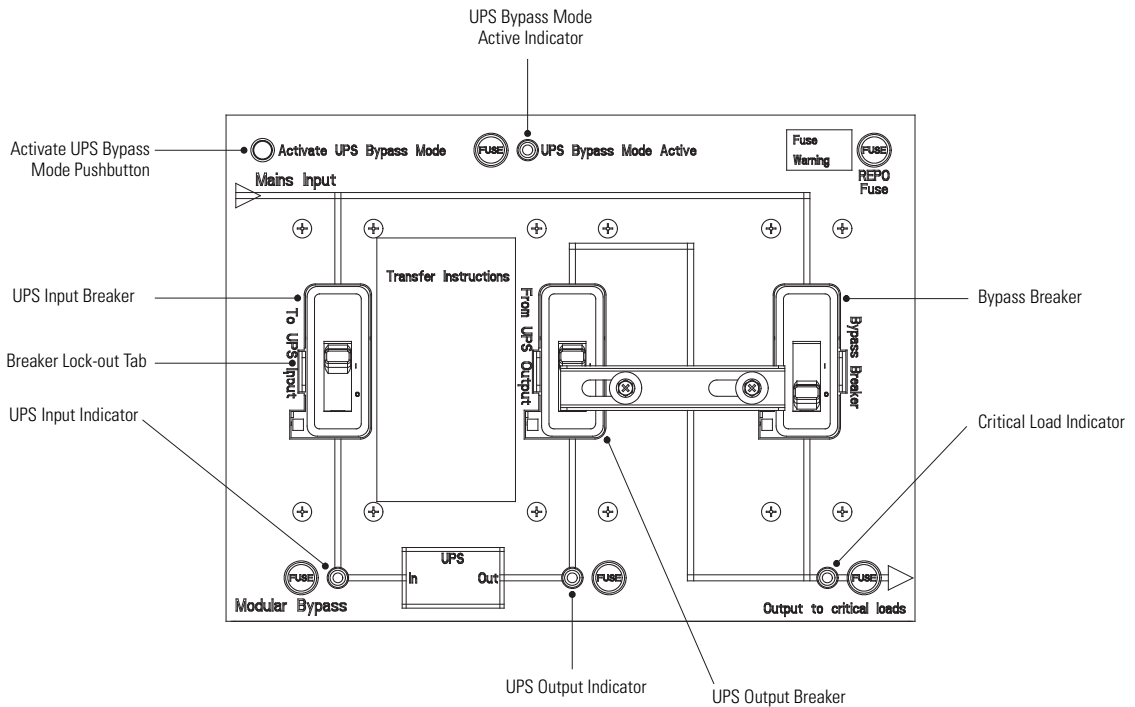
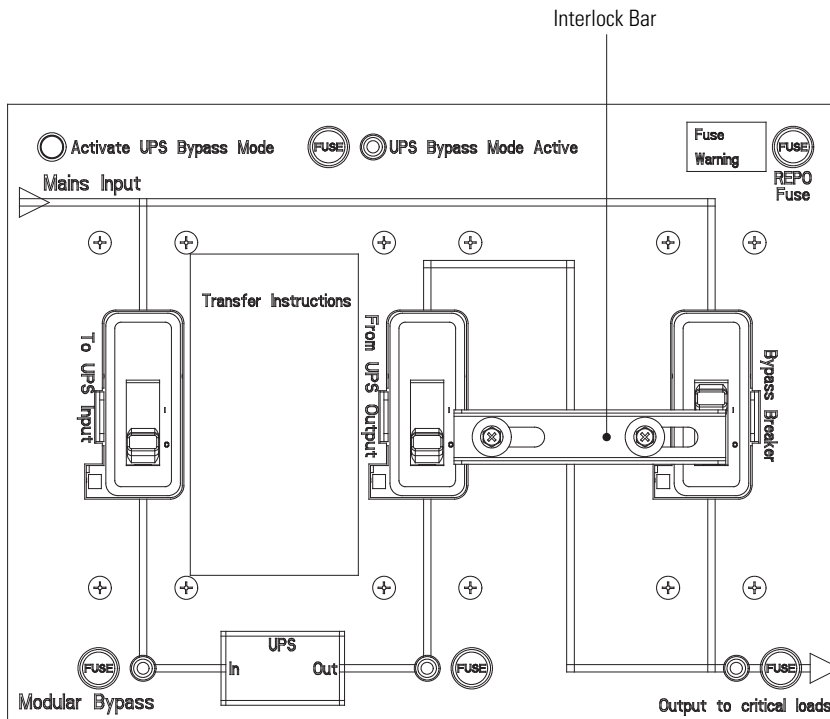
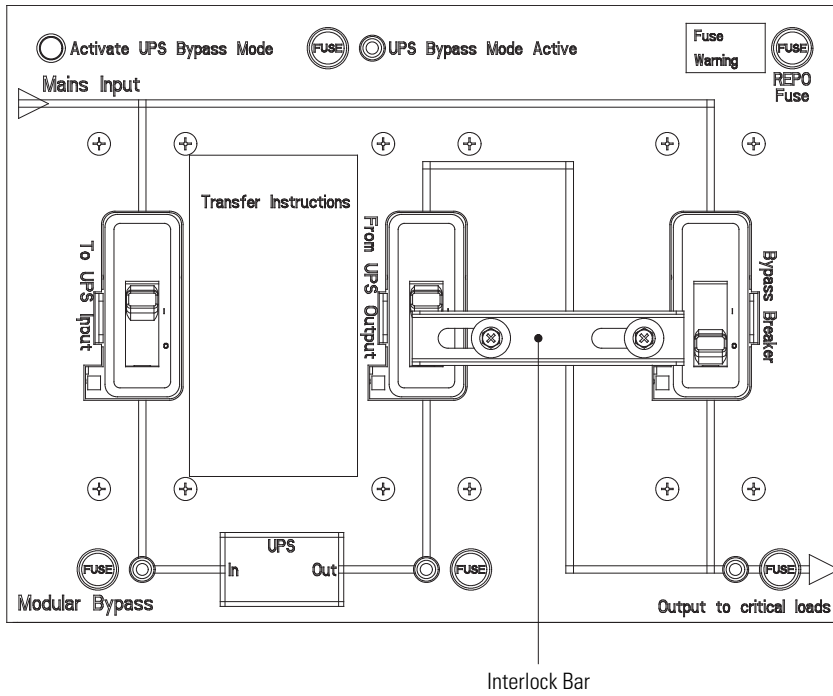

Figure 20. BladeUPS MBM Controls and Indicators
Figure 24. BladeUPS MBM Breaker Interlock Operation – Bypass Mode
Figure 25. BladeUPS MBM Breaker Interlock Operation – Normal Mode
6. Press the **Activate UPS Bypass Mode** pushbutton on the front panel of the MBM (see Figure 20 on page 32) to transfer the UPS to bypass.
7. Verify that the **UPS Bypass Mode Active** status indicator (see Figure 20) is illuminated, indicating the UPS is operating in Bypass mode.
The controls and indicators identified and described in Table 6 and shown in Figure 20 are used to control and monitor MBM operation.
2. Press the **Activate UPS Bypass Mode** pushbutton on the front panel of the MBM (see Figure 20 on page 32) to transfer the UPS to bypass.
3. Verify that the **UPS Bypass Mode Active** status indicator (see Figure 20) is illuminated, indicating the UPS is operating in Bypass mode.
4. Close the Bypass breaker (see Figure 20).
5. Slide the interlock bar to the right (see Figure 24).
6. Open the UPS Output breaker (see Figure 20 and Figure 24).
8. Open the UPS Input breaker (see Figure 20).
2. Close the UPS Input breaker (see Figure 20 on page 32).
6. Close the UPS Output breaker (see Figure 20 on page 32).
7. Slide the interlock bar to the left (see Figure 25).
8. Open the Bypass breaker (see Figure 20 on page 32 and Figure 25).